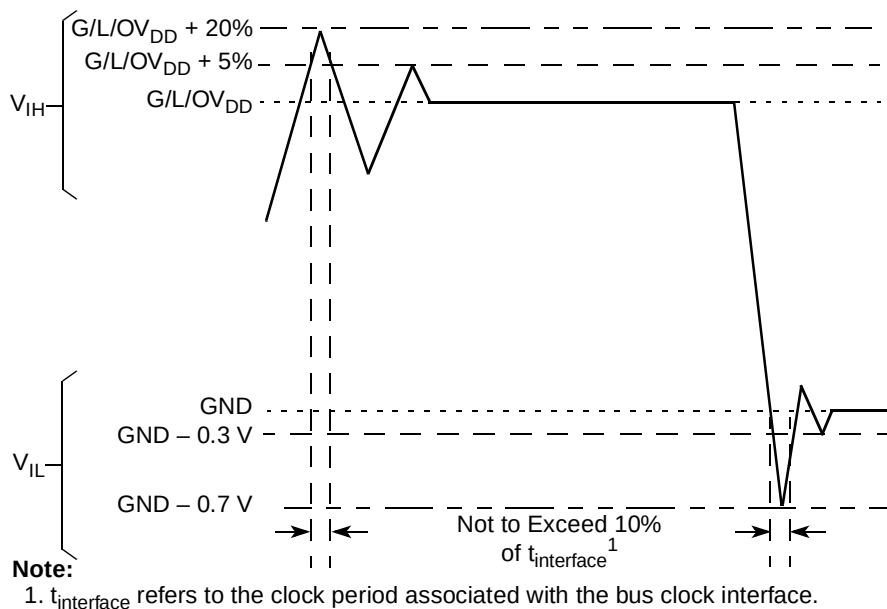

**Figure 2. Overshoot/Undershoot Voltage for  $GV_{DD}/OV_{DD}/LV_{DD}$**
- 5 (M,L,O) $V_{IN}$  and  $MV_{REF}$  may overshoot/undershoot to a voltage and for a maximum duration as shown in Figure 2.
Figure 2 shows the undershoot and overshoot voltages at the interfaces of the MPC8347E.